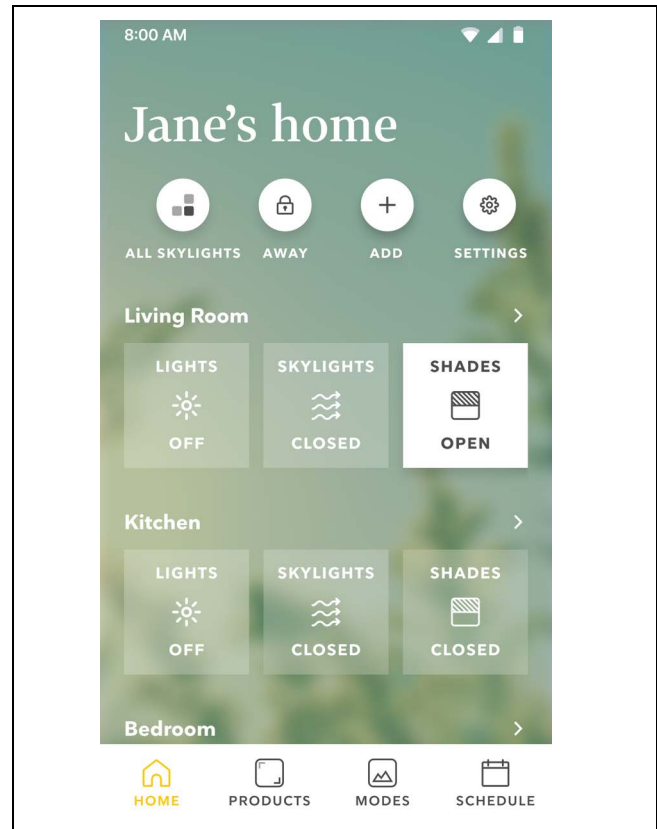

Figure 66
1. Download and install the Marvin Home App. Install following app instructions. See Figure 66.